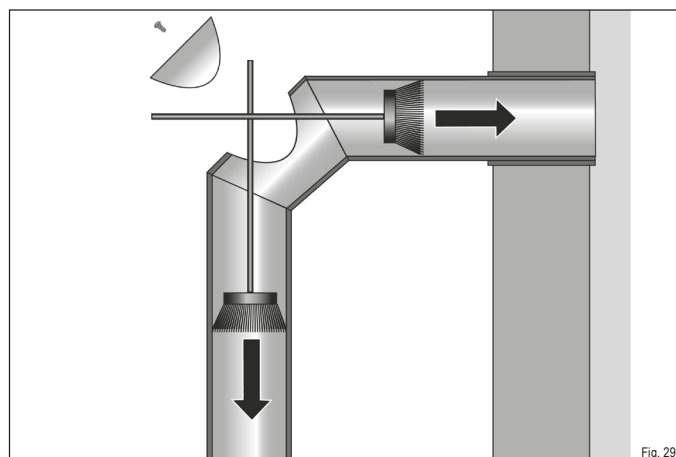

Fig. 29
- Open the clean-out port on the flue pipe (Fig. 29).
- Sweep the deposit to the back into the chimney and down into the stove (Fig. 29).